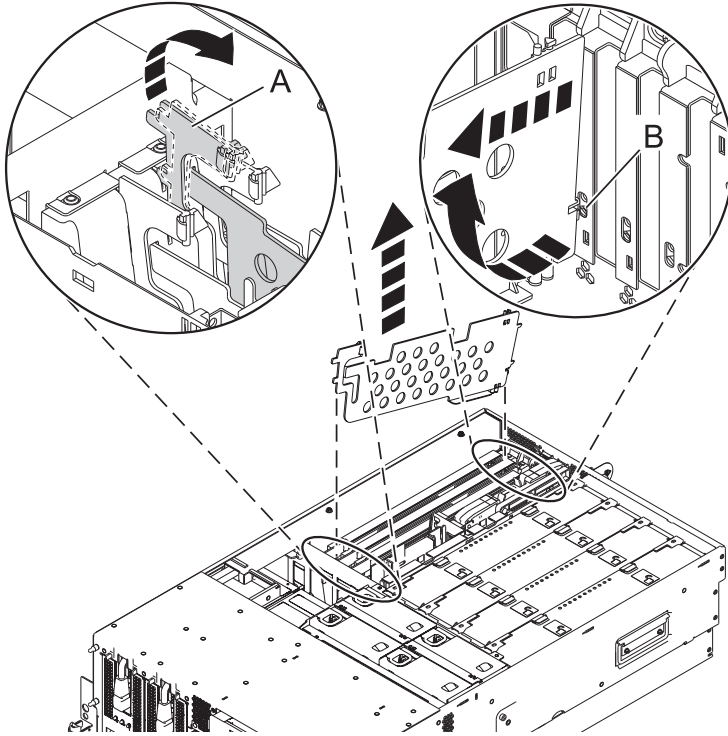

Figure 5. Removing the PCI adapter dividers
- a. Flex the front edge (**A**) of the PCI adapter divider out of the bracket and toward the rest of the divider. See Figure 5 on page 10.